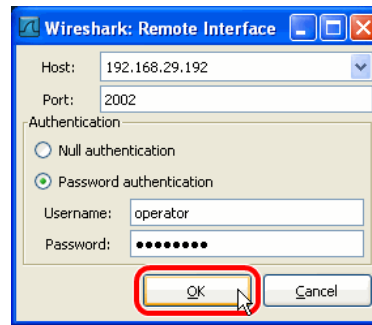

Figure 162: Wireshark Remote Interface Dialog.
4. Enter the correct settings for **Host** and **Port** (default 2002) and, if authentication is enabled, enter **Username** and **Password** in the corresponding fields as shown in Figure 162.